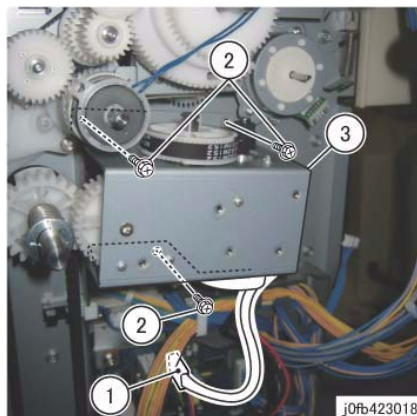

Figure 11 Elevator Motor
14. Remove the Stacker Elevator Motor Assembly. (Figure 11)